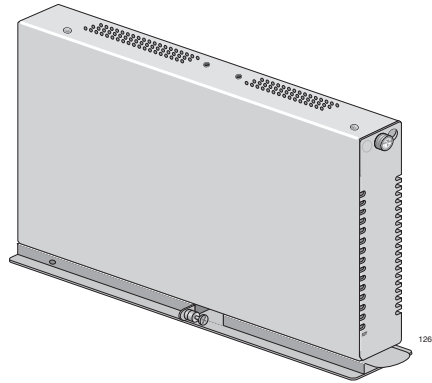

Figure 13. AT-CV1000 Chassis with AT-CVMCR Adapter Installed
4. Turn the chassis over, as shown Figure 13.